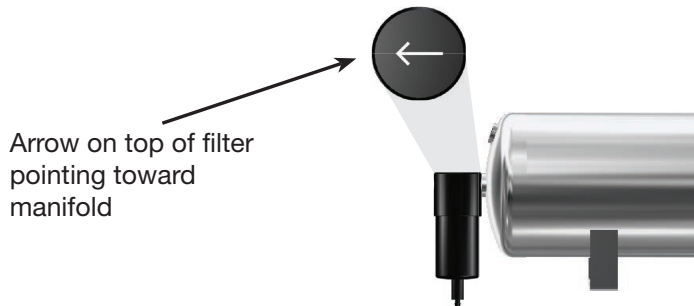

fig. 7
3. The arrow on the filter indicates flow direction and must point toward the manifold (fig. 7).